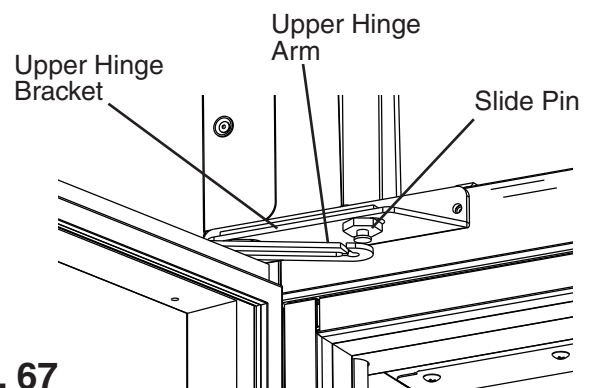

Fig. 67
20) Open the upper door and connect the upper hinge arm to the slide pin on the upper hinge bracket, then close the door. See Fig. 67.